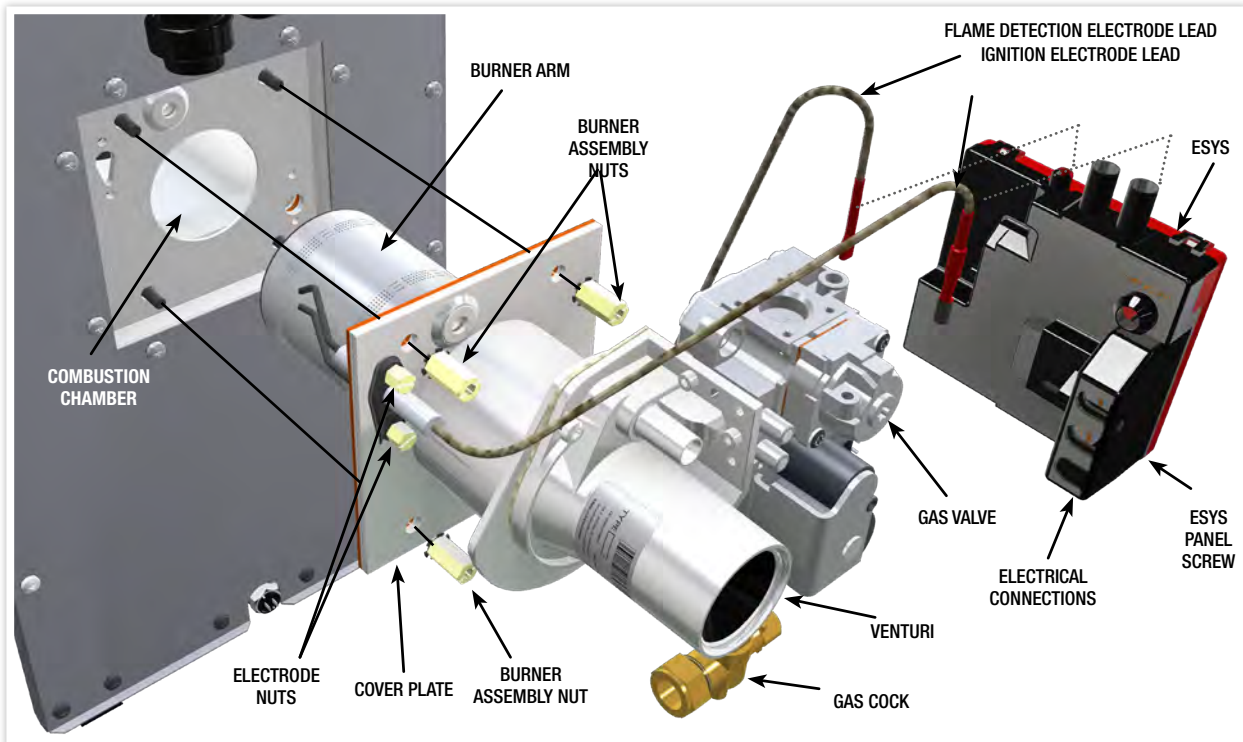

FIGURE 19. MAIN BURNER ASSEMBLY REMOVAL
- 16.4.1 Refer to section 16.3. See Figure 19.
- 16.5.1 Refer to section 16.3. See Figure 19 & 20.